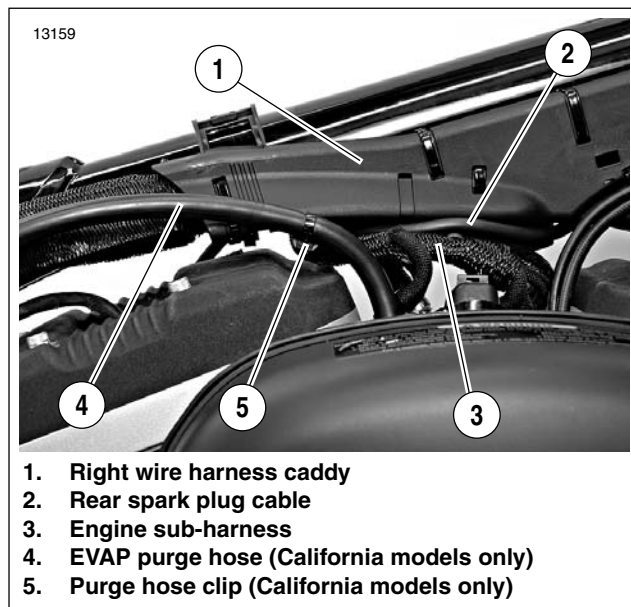

Figure 7-111. Rear Spark Plug Cable Routing
25. See Figure 7-111. Route engine sub-harness (3) around trough in right wire harness caddy.
26. **California models:** Secure EVAP purge hose (4) to rear end of wire harness caddy with **new** hose clip (5). Make sure hose is positioned up against engine sub-harness, as far away from rear rocker cover as possible.
27. Route rear spark plug cable (2) in right wire harness caddy trough. Make sure spark plug cable is positioned above engine sub-harness. Make sure engine sub-harness is tightly positioned around wire harness caddy trough to avoid contact with rear cylinder head.